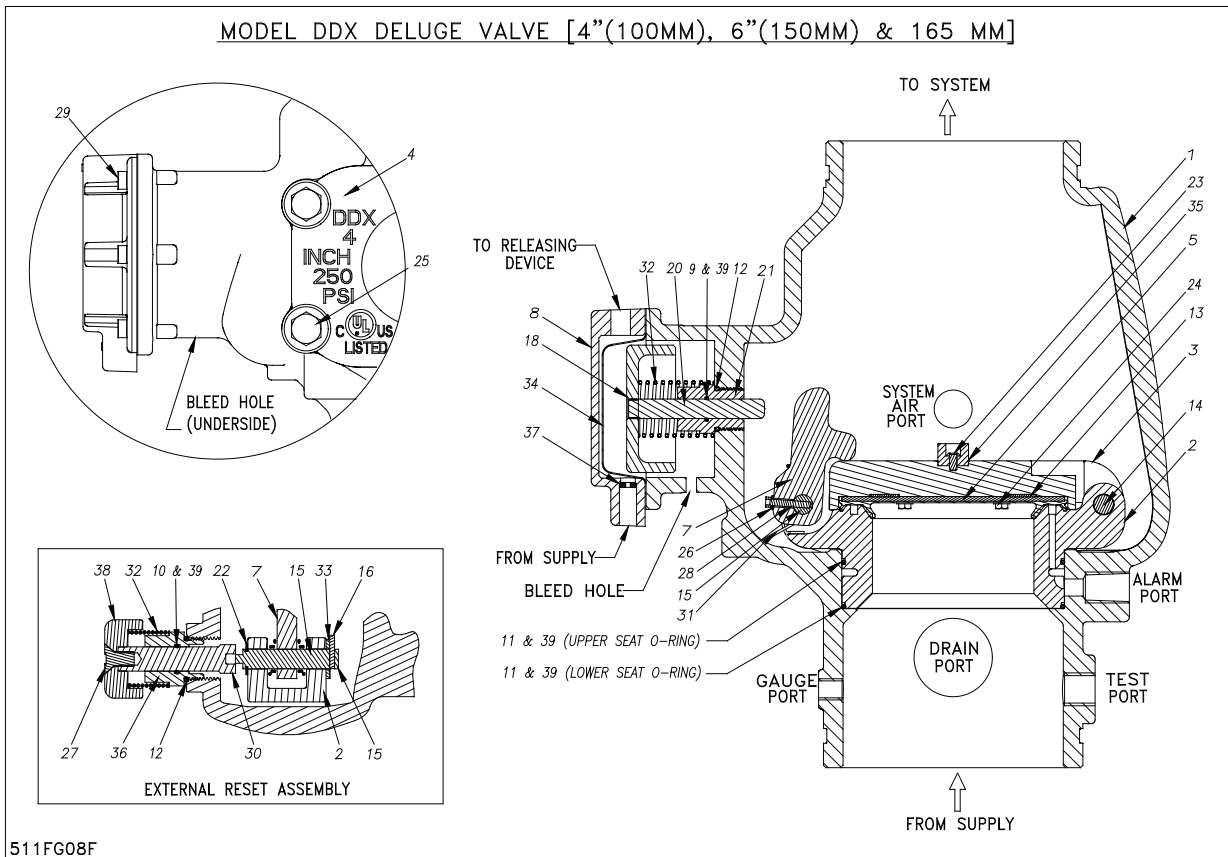
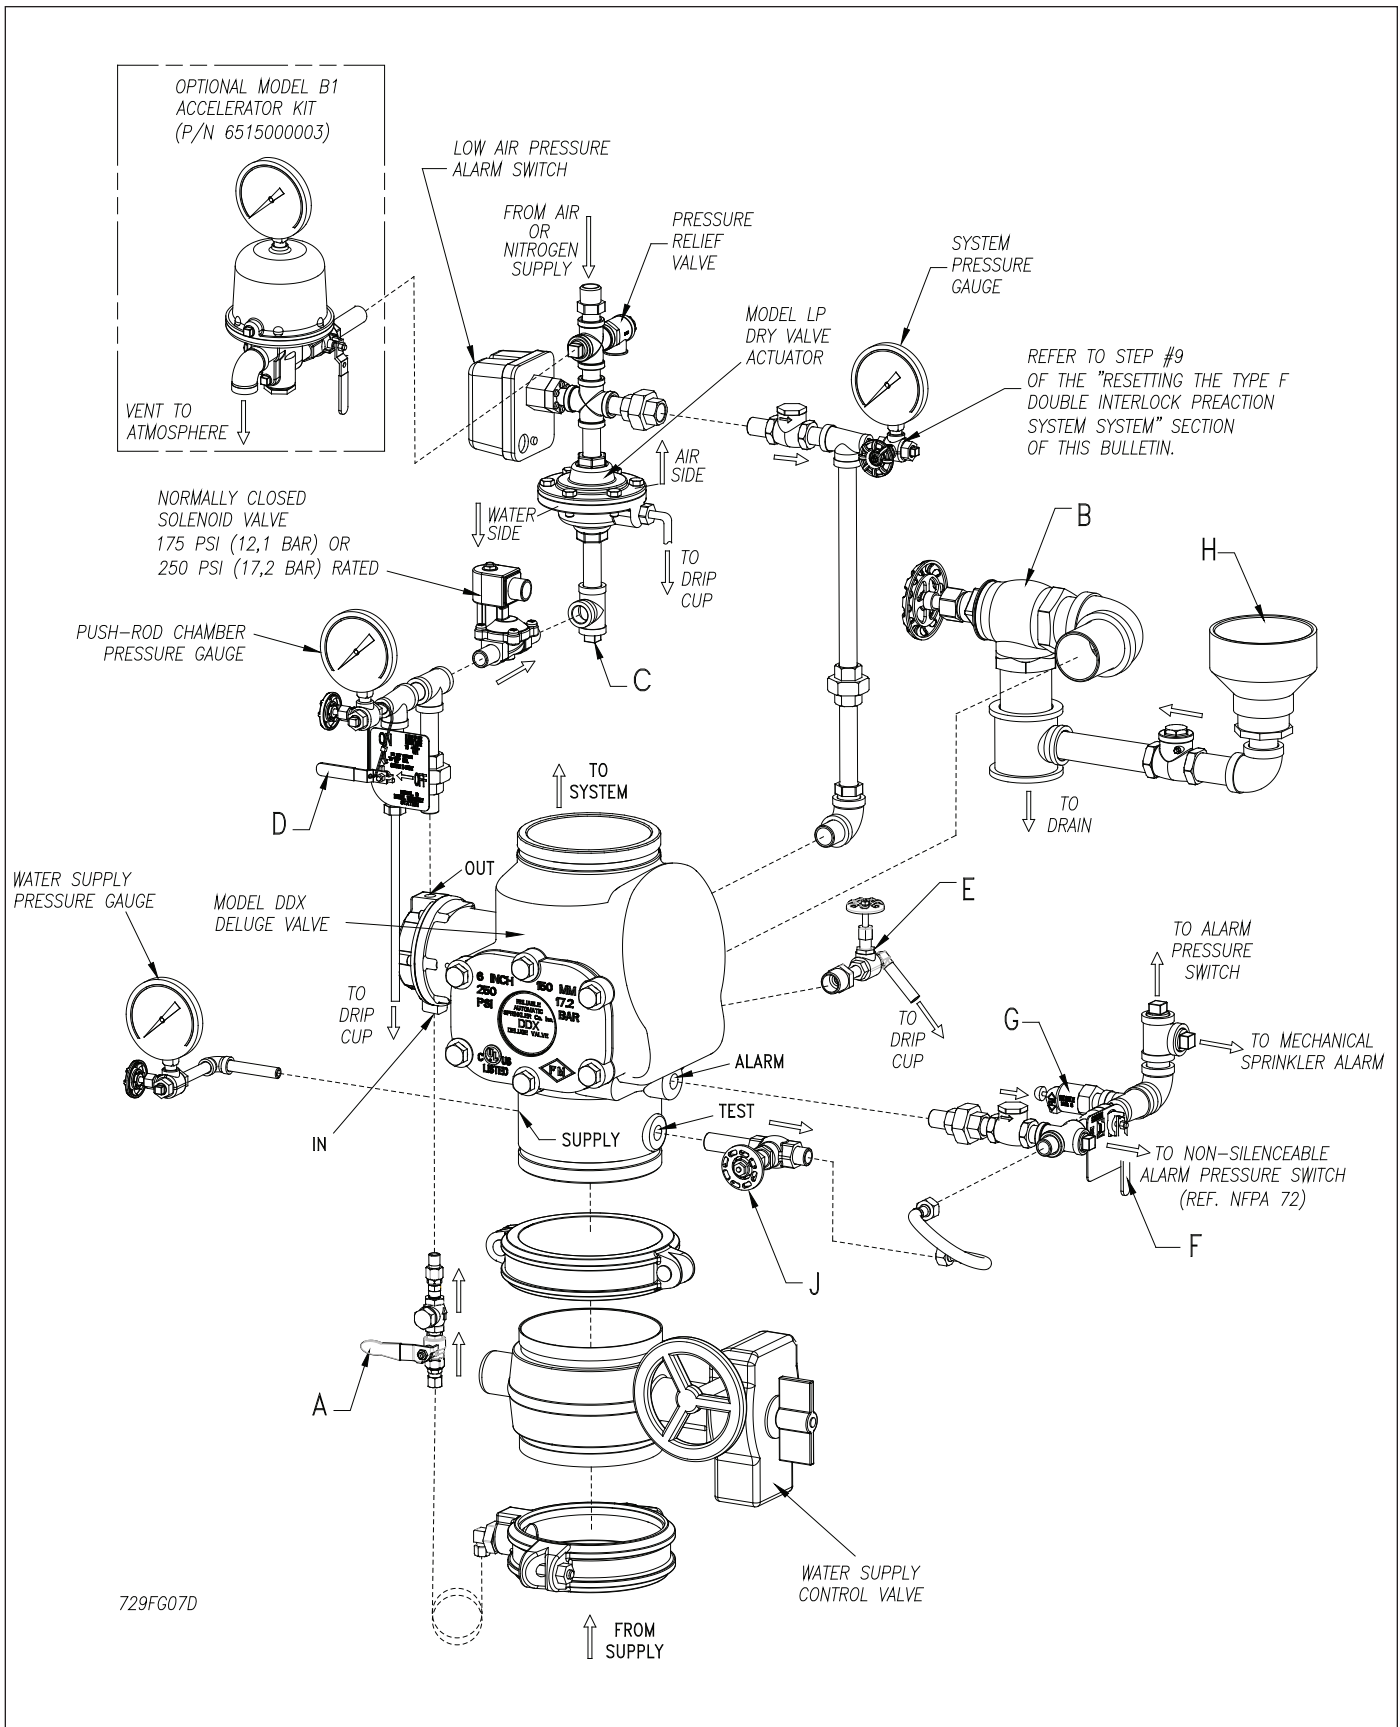

Fig. 6
Fig. 7
1. Close the main valve controlling water supply (Fig. 7) to the Deluge Valve and close off the air/nitrogen supply to the sprinkler system.
2. Close the pushrod chamber supply valve, valve A (Fig. 7).
3. Open the main drain valve, valve B (Fig. 7), and drain system.
4. Open all drain valves and vents at low points throughout the system, closing them when flow of water has stopped. Open valve D (Fig. 7). **Note:** The above steps accomplish the relieving of pressure in the pushrod chamber of the Deluge Valve.
5. With Valve F (Fig. 7) open, push in the plunger of ball drip valve, valve G (Fig. 7), to force the ball from its seat, and drain any water in the alarm line.
6. With the Model B Manual Emergency Station, valve D (Fig. 7), open, push in and rotate the Deluge Valve's external reset knob (#38, Fig. 6) clockwise until you hear a distinct clicking noise, indicating that the clapper has closed. **Note:** The reset knob can be rotated only after pressure in the pushrod chamber is reduced to atmospheric conditions (0 psig).
8. Close valve F (Fig. 7). Activate a solenoid-release pull station (Or other means of electric detection. Refer to Bulletin 700, "Special Hazards & Special Systems") to energize the solenoid valve. Silence any alarms or audible tones by pressing the "Remote Silence" and/or "Local Silence" buttons on the releasing/control panel. Open valve A (Fig. 7) to begin pressurizing the push-rod chamber and its associated piping, while simultaneously venting any entrapped air. **Note:** This venting of the air from the actuation piping is very important to ensure proper system operation and avoidance of falsely tripping the Deluge Valve.
9. Upon seeing a solid flow of water from the drain tubing, and the cessation of the "gurgling" sound at the drip cup, H (Fig. 7), close valve D (Fig. 7) then rapidly apply compressed air or nitrogen into the Model LP Dry Valve Actuator (and the sprinkler system) until the pressure conforms to Table A levels as indicated on the air pressure gauge (Fig. 7). The Model LP Dry Valve Actuator will close during this pressurizing process and the water will stop flowing into the drip cup. **Note:** It may be necessary to temporarily close the main drain (valve B, Fig. 7) in order to build sufficient air pressure to "set up" the Model LP Actuator. Once the Model LP Actuator is "set up", the main drain (valve B, Fig. 7) should be reopened and the remaining procedure followed. At this point, the pressure gauge which indicates push-rod chamber pressure (Fig. 7) will equalize to the available water supply pressure. **Note:** It may be necessary to isolate the system pressure gauge in the supply line to the Model LP Dry Valve Actuator during system set-up by closing the 1/4" 3-way valve (#62, Fig. 2). During set-up, pressure fluctuations may occur that can be potentially damaging to the gauge.
12. Open valve F (Fig. 7). Open slightly the main valve controlling water supply (Fig. 7) to the Model DDX Deluge Valve, closing drain valve B (Fig. 7) when water flows. Observe if water leaks through the ball drip valve, valve G (Fig. 7), into the drip cup, H (Fig. 7). If no leak occurs, the Deluge Valve's clapper is sealed. Open slowly, and verify that the main valve controlling water supply is fully opened and properly monitored.
13. Verify that valve A (Fig. 7) and valve F (Fig. 7) are open.
14. Secure the handle of the Model B Manual Emergency Station, valve D (Fig. 7), in the OFF position with a nylon tie (#55, Fig. 2).
2. **Alarm line** — be sure that valve F (Fig. 7) is opened and remains in this position.
3. **Other trimming valves** — check that valve A (Fig. 7) is open as well as all of the pressure gauge's 1/4" 3-way valves. Valves D, E, and J (Fig. 7) should be closed.
4. **Ball drip valve G (Fig. 7)** — make sure that valve F (Fig. 7) is open. Push in on the plunger to be sure the ball check is off its seat. If no water appears, the Deluge Valve's water seat is tight. Inspect the bleed hole (see Fig. 6) on the underside of the push rod chamber for leakage.
5. **System pneumatic pressure** — check air pressure gauge (Fig. 7) and water supply pressure gauge (Fig. 7) for conformance to Table A.
6. **Releasing device** - Model LP Dry Valve Actuator (Fig. 7) — Verify that the outlet is not leaking water. Check the air pressure gauge (Fig. 7) for proper pressure setting. Verify that the tubing line from the Actuator is not pinched or crushed, which could prevent proper operation of the Deluge Valve.
7. **Testing alarms** — make sure that valve F (Fig. 7) is open. Open valve J (Fig. 7) permitting water from the supply to flow to the electric sprinkler alarm switch and to the mechanical sprinkler alarm (water motor). After testing, close this valve securely. Push in on the plunger of ball drip valve G (Fig. 7) until all of the water has drained from the alarm line.
8. **Operational test** — Open the Model B Manual Emergency Station, valve D (Fig. 7). Note: An operational test will cause the Deluge Valve to open and flow water into the sprinkler system.
9. Secure Model B Manual Emergency Station, valve D (Fig. 7), in the OFF position with a nylon tie (#55, Fig. 2) after the Deluge Valve is reset.
Refer to Fig. 7
2. Leakage out of the ball drip valve G (Fig. 7).
This condition can be caused by leakage past the system side of the Model DDX Deluge Valve's seal faceplate subassembly (#5, Fig. 6). Be sure that this surface is free of any type of debris. To eliminate leakage due to a water column, refer to the section in this bulletin marked "Draining Excess/Condensate Water From System". If the problem continues proceed to the following section.
b. Leakage, air or water from the ball drip valve, G (Fig. 7):
If system air is leaking out the ball drip valve, the problem is either damage to the airside of the Model DDX Deluge Valve's seal faceplate subassembly (#5, Fig. 6), seat (#2, Fig. 6), or the upper seat O-ring (#11, Fig. 6). If supply water is leaking out the ball drip valve the problem could be caused by damage to the Model DDX Deluge Valve's seal faceplate subassembly (#5, Fig. 6), seat (#2, Fig. 6), or lower seat O-ring (#11, Fig. 6). The following section provides instructions to correct both conditions: A) Shut down the valve controlling the water supply to the Deluge Valve and open the main drain valve B (Fig. 7). Open the water column drain valve E (Fig. 7). Close the push rod chamber supply valve A (Fig. 7) and open the Model B Manual Emergency Station D (Fig. 7). B) Remove the Deluge Valve's front (handhold) cover (#4, Fig. 6) and inspect the seat (#2, Fig. 6), clapper (#3, Fig. 6), and seal faceplate subassembly (#5, Fig. 6) for damage.
If inspection indicates damage to the clapper (#3, Fig. 6) or seal faceplate subassembly (#5, Fig. 6) only, then the clapper subassembly can be removed as follows:
At the rear of the valve, disconnect the water column drain trim section starting with the elbow connector (#18, Fig. 2). Then remove the 1/4" globe valve (#28, Fig. 2) followed by the 3/4" x 1/4" reducing bushing (#13, Fig. 5). Remove the retaining ring (handhold cover side) from the clapper hinge pin (#14, Fig. 6) and push this pin through the water column drain line and remove the clapper subassembly. Remove the four retaining screws (#24, Fig. 6) holding the seal faceplate subassembly (#5, Fig. 6). Inspect the clapper (#3, Fig. 6) visually before re-installing. Apply a small amount of silicone-based lubricant to the four retaining screws. Install a new seal faceplate subassembly. Torque the retaining screws to approximately 40 inch-pounds and reassemble. If the seat (#2, Fig. 6) is damaged or it is suspected that the leakage is through the lower O-ring (#11, Fig. 6), the seat-clapper subassembly is easily removed as a unit as follows:
Using a 5/16" Allen wrench, remove the two 3/8" NPT pipe plugs (#19 (not shown) Fig. 6) located on the side of the Model DDX Deluge Valve. The seat-clapper subassembly is retained by two locking pins (#17 (not shown) Fig.6). The centers of these pins have a 1/4"-20 threaded hole. Remove the two locking pins by engaging them with a 1/4"-20 screw or threaded rod and pulling them out (The two locking pins are not threaded, so turning them with the attached 1/4"-20 screw or threaded rod is not recommended. A proven method is to use 1/4"-20 threaded rod with a locknut on the unassembled end. Grab hold of the locknut with pliers or vice-grips and tap the pliers or vice-grips in the direction away from the Deluge Valve. Doing so should pull the locking pins out of the Deluge Valve.). With the clapper (#2, Fig. 6) in the closed position (not latched), dislodge the seat-clapper subassembly from the Valve's body by inserting two slotted screwdrivers under the lever and clapper mounting ears and pry up until the seat-clapper subassembly is free of its bore. Reach into the valve and grasp the seat-clapper subassembly from the sides. Lift up and rotate the seat-clapper subassembly through 90 degrees about the centerline axis of the Model DDX Deluge Valve so that the lever side of the seat-clapper subassembly faces the outlet of the Deluge Valve. Rotate the seat-clapper subassembly around the centerline of the Deluge Valve until the top of the clapper faces the handhold opening and then pull it out clapper hinge-pin side first. Visually examine all components of the seat-clapper subassembly replacing any component that appears damaged. New O-rings (#11, Fig. 6) should always be used for reassembly.
It is likely that the lower seat O-ring (#11, Fig. 6) has remained at the bottom of the Deluge Valve body's bore. Discard this O-ring and clean the bore. Lubricate the bore with O-ring grease and place the lower seat O-ring on the step at the bottom of the bore, verifying that it is in full contact with the bore. Lubricate the bottom step and upper seat O-ring (#11, Fig. 6) of the refurbished seat-clapper subassembly. Insert the seat-clapper subassembly into the handhold opening of the Deluge Valve lever-first, rotating it until the lever side faces the outlet of the Deluge Valve. Rotate the seat-clapper subassembly until the lever (#7, Fig. 6) faces the push rod (#20, Fig. 6), then drop the seat-clapper subassembly into the Deluge Valve's bore. Verify that the seat-clapper subassembly is in the fully down position and check to see that the lever lines up with the push rod. Adjust if necessary. Clean and lubricate the two locking pins (#17(not shown) Fig.6) with O-ring lubricant and drive them into the Deluge Valve body. Then reinstall the 3/8" NPT pipe plugs (#19 (not shown) on Fig. 6). Reassemble the handhold cover and set up the Model DDX Deluge Valve as per the section "Resetting the Type F Double Interlock Preaction System."
A small bleed hole is located on the underside of the push rod chamber (see Fig. 6). If there is air or water leakage coming out of this hole, do the following:
- a. Shut down the valve controlling water supply to the Deluge Valve. Relieve the inlet pressure by opening the main drain valve B (Fig. 7). Close the valve A (Fig. 7) that supplies water to the push rod chamber, and open the Model B Manual Emergency Station, valve D (Fig. 7).